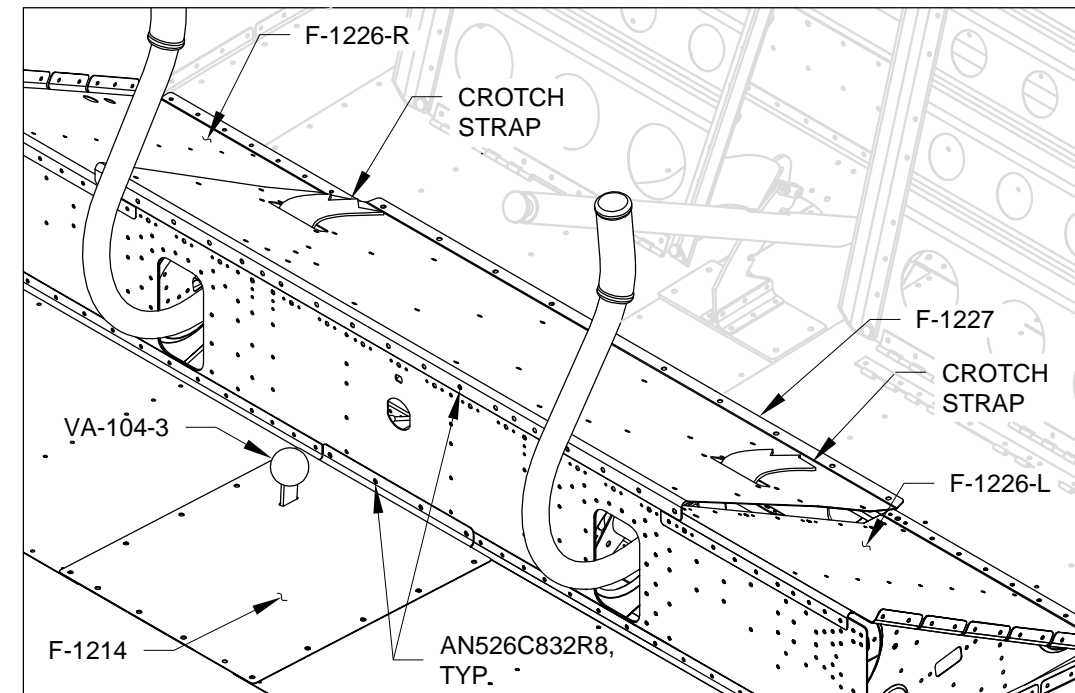

FIGURE 4: SEAT RAMP COVER INSTALLATION
Step 5: Remove the VA-104-3 Knob and fasten the F-1227 Seat Ramp Cover and F-1214 Step Floor Cover in place using the hardware called out in Figure 4. Reattach the knob.